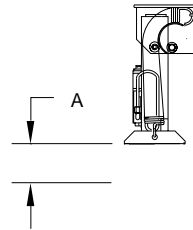

FIGURE 1
B. PULL JACK BY HAND TO THE VERTICAL POSITION AND CHECK DIMENSION A. (SEE FIGURE 1) DIMENSION "A" SHOULD BE 3 TO 5 INCHES FOR DRY NEW VEHICLES AND 2 TO 4 INCHES FOR WET VEHICLES WITH OVER 10,000 MILES.